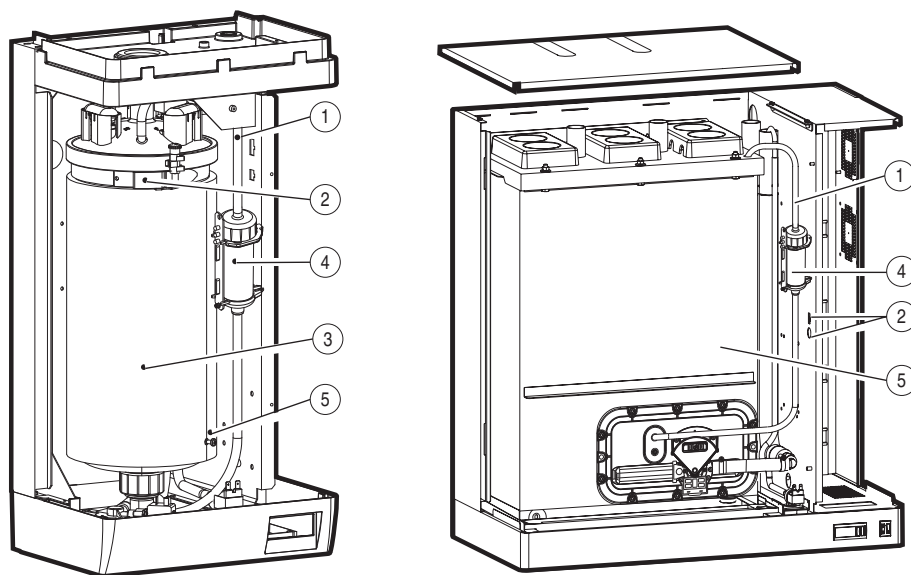

Fig. 1.a
The layout of the humidifier is as in Fig. 1.a.
1. remove the steam pipe from the upper pipe union of the cylinder (Fig. 1.b);
2. electronically disconnect the level sensor (Fig. 1.a, part. no. 3);
3. remove, from the cylinder cover, the pressure equalising pipe with the level control tank (Fig. 1.a, part. no. 1);